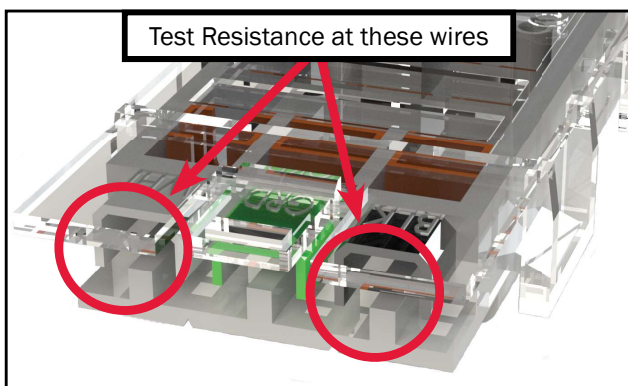

Figure 38
- Resistance should be between approximately 11-13 ohms. If there are less than 11 ohms of resistance, the electric element can cause the coach-side breaker to trip (reference Figure 38).